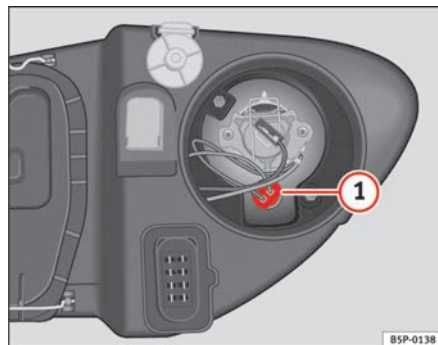

Fig. 189 Side lights
- Extract the lamp holder ⇒ fig. 189 ① outwards.